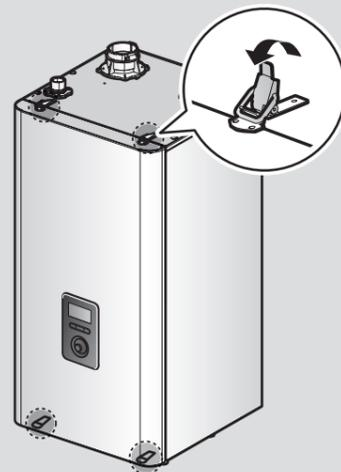

Figure 1. NFC Series Front cover
- Unfasten the 4 latches (2 at the top and 2 at the bottom) to remove the front cover and gain access to the internal components. See Figure 1 for illustration of the front cover clamps.